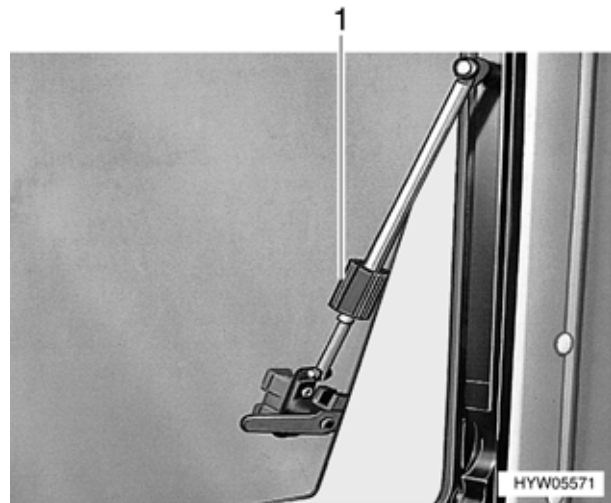

Fig. 46 Hinged window, open (variant 3)
- Open the hinged window until the required position has been reached and use knurled knob to secure in position (Fig. 46,1).
- Turn knurled knob (Fig. 46,1) until the latch is released.